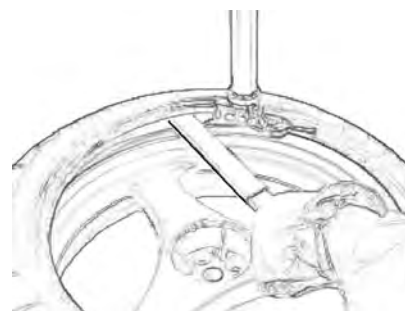

Fig. 4.3-2
- As the turntable is turning use the tire tool in your left hand to raise and guide the tire bead onto the bead head (Fig. 4.3-2).